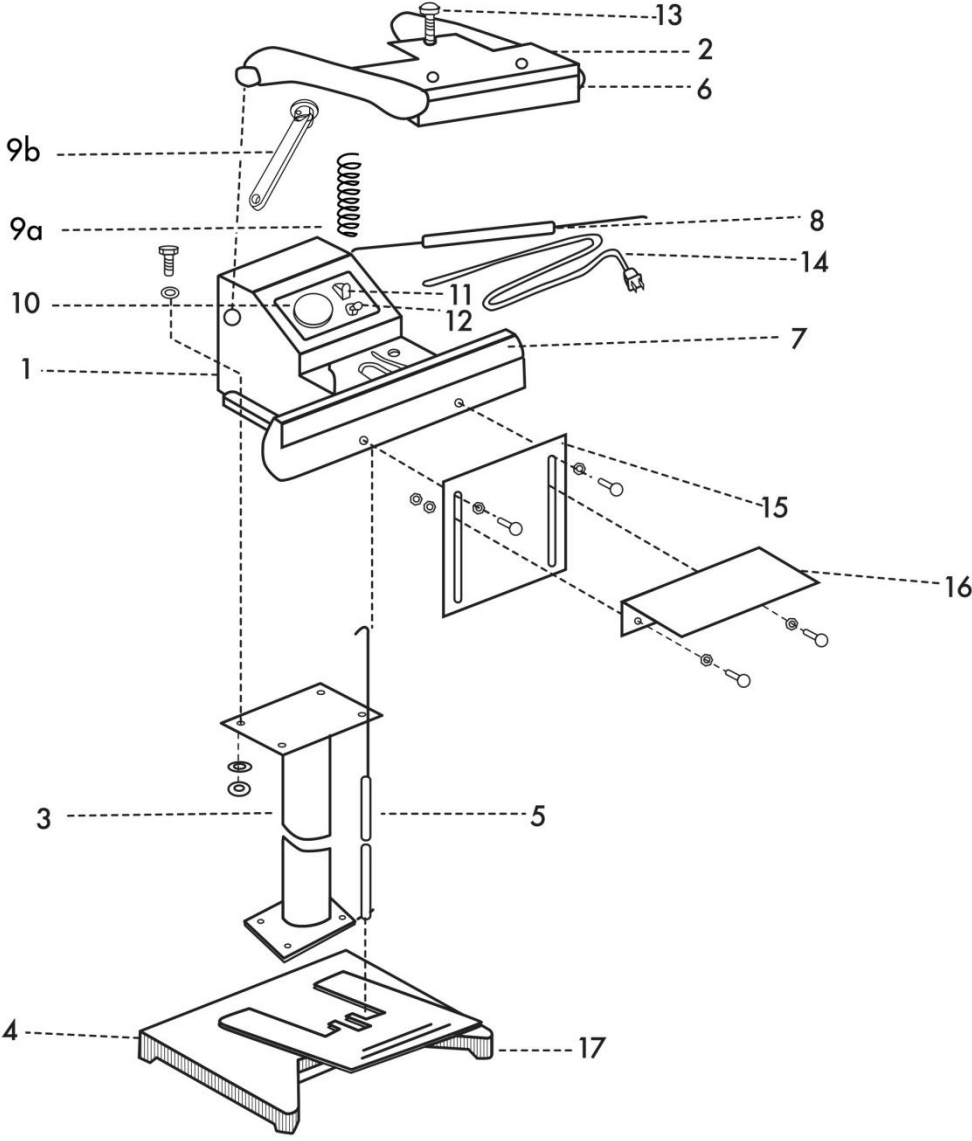

Figure 12. Spare Parts Diagram Overview
3. Bring the upper jaw down and position the small pulling pole/plate set (Figure 12, Item #9B) through the pressing spring (Figure 12, Item #9A).
4. Gently push the upper jaw to meet the lower jaw. While jaws are compressed, reach under the unit and hook the pulling pole (Figure 12, Item #5) onto the small pulling pole/plate set.